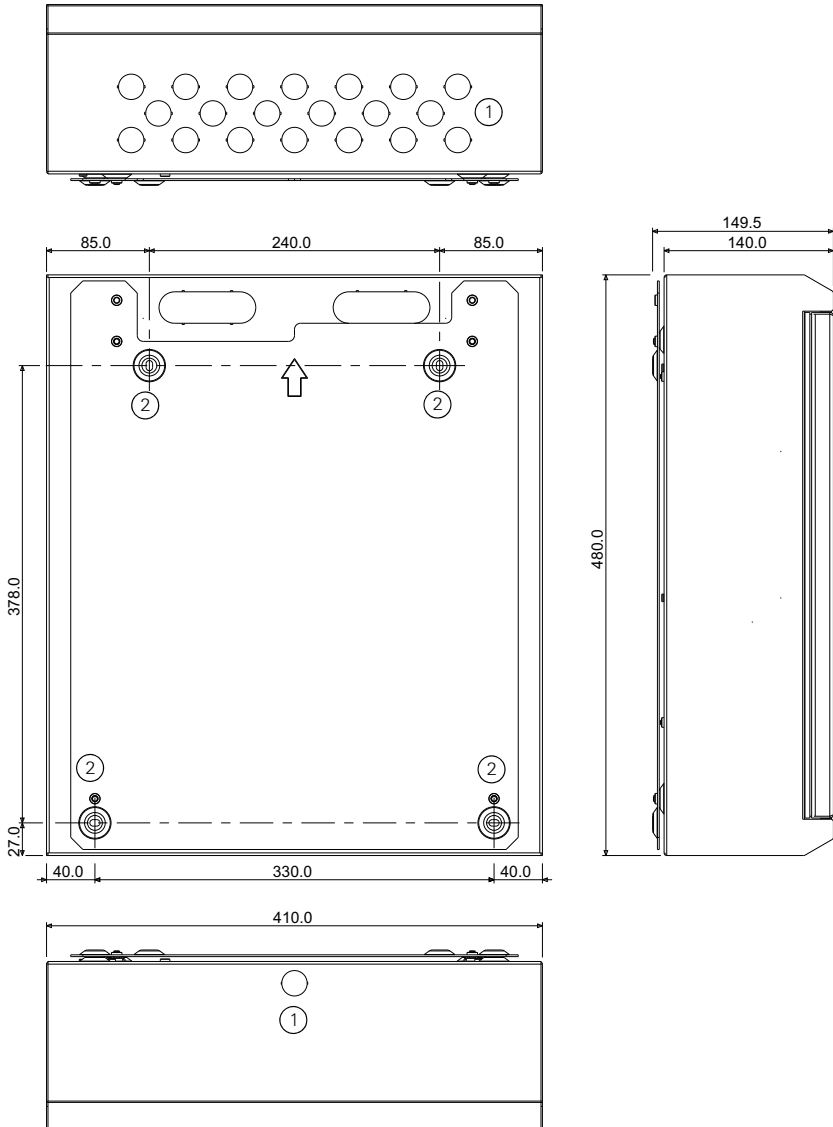

Fig. 2: Overall and Fixing Dimensions – FC-ANC
- Determine the mounting positions and as a double check, use the dimensions in Fig. 2.
- Hold the mounting plate up to the wall and mark on the wall a position for the upper mounting hole. Make sure that the plate is the right way up. See the arrow pointing upwards on the mounting plate. Refer to Fig. 2.
- Lift off door. See Fig.2 on page 4.